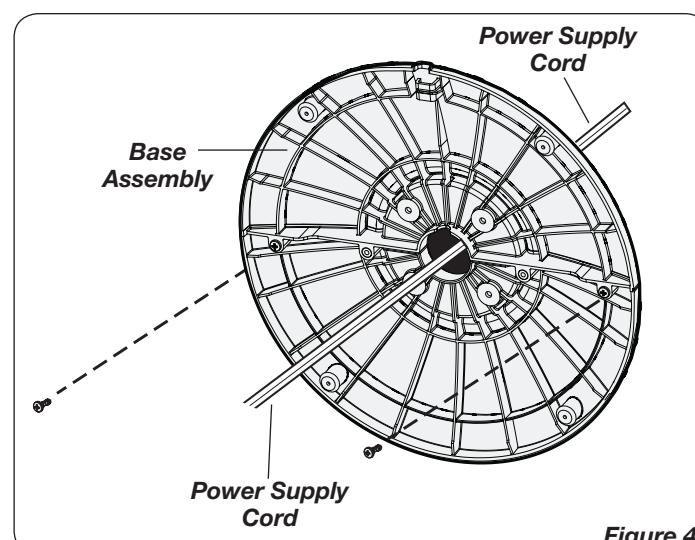

Figure 4
- Secure the Base halves with (2) M4 X 13mm Screws. Thread the Power Supply Cord through the large hole in the Base Assembly. (Figure 4)